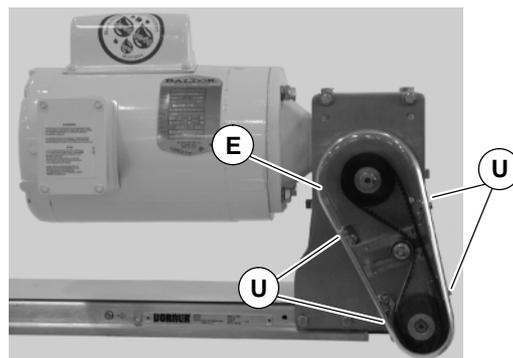

Figure 20
NOTE: Do not over-tighten screws (U of Figure 20).
6. Attach cover (E of Figure 20) and tighten four (4) screws (U) to 35 in-lb (4 Nm).